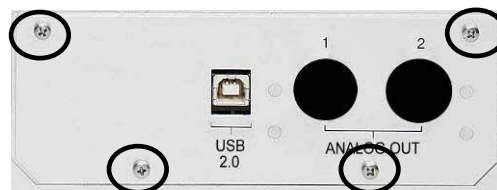

Fig. 9: Screws on the access panel
3. Loosen the four screws indicated in Fig. 9 and remove the access panel from the rear panel.
- Attach the board to the rear panel, by using the 4 screws as shown in Fig. 9.